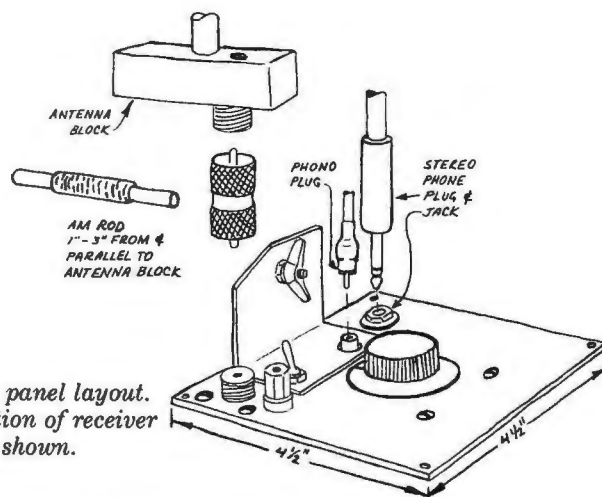

Fig. 4. Control panel layout. Proper orientation of receiver rod antenna is shown.
**Control Panel Construction.** We'll now assemble the Loop's Control Panel. It should be fashioned from a 4.75" (12.1-cm) square piece of  $\frac{1}{16}$ -inch (1.6-mm) aluminum plate. Physical layout is flexible, but use Fig. 4 as a guideline. Form a support bracket from aluminum stock, or use a commercial aluminum angle about  $2\frac{1}{2}$ "  $\times$   $1\frac{1}{2}$ "  $\times$   $1\frac{1}{2}$ " (6.4 cm  $\times$  3.8 cm  $\times$  3.8 cm). Install the bracket centered along one side of the aluminum panel. Then drill mounting holes for an SO-239 coaxial jack—this should be set back 1"  $\times$  1" (2.5 cm  $\times$  2.5 cm) from the corner nearest the notched side of the bracket—and for the main tuning capacitor, switch S1, binding post BP1, and the RCA phono and head-phone jacks (if desired).
Attach the Loop frame to the Control Panel using PL1, a double male uhf coaxial adapter (Amphenol 83-877), between jacks J1 and J2. Then connect the free end of the hookup wire from the loop to binding post BP1. Tighten the hardware holding the hardwood strip. Leave S1 open, and position your AM receiver below the Loop, orienting its rod antenna as shown in Fig. 4. The two coils should be about 1" to 3" (2.5 cm to 7.6 cm) apart.